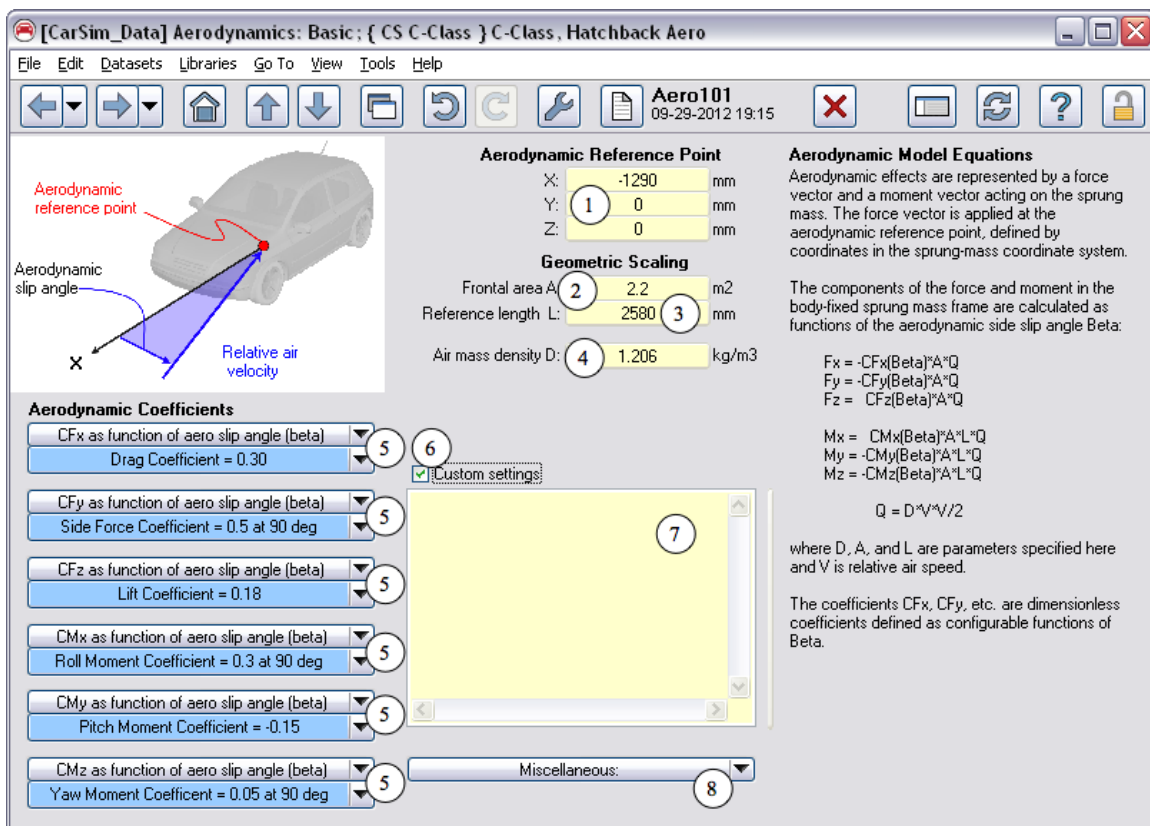
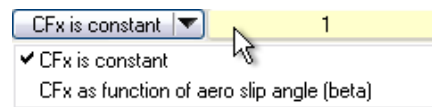

Figure 1. The Aerodynamics: Basic Screen.
Figure 2. Drop-down control to specify coefficient as constant or Configurable Function.
Use the screen shown in Figure 1 to assemble the aerodynamic effects acting on a vehicle lead unit (CarSim, TruckSim, BikeSim) and trailers (CarSim and TruckSim).
- ② Frontal area of vehicle unit used to calculate aerodynamic forces and moments (keyword = $AREA_AERO[(IUNIT)]$).
- ③ Aerodynamic reference length (keyword = $L_REF_AERO[(IUNIT)]$). This length is used to scale the three aerodynamic moments applied to the sprung mass. It is usually the wheelbase length.
- ④ Air mass density ρ (see equation 2, keyword = D_AIR). As noted earlier, air density can also be specified on the **Wind Speed** screen. If a run is made with a wind dataset that specifies ρ , that value will override the value specified on this screen.
- ⑤ Definitions of the coefficient C_1 in equations 1 and 3. Each of these coefficients has an associated drop-down control that can be used to specify its value as either a constant, or with a link to another dataset in which the coefficient is defined using a Configurable Function based on aerodynamic slip angle (Figure 2).
When the coefficient is set to a constant, a yellow field is shown for the value (Figure 2). If the Configurable Function option is chosen, a blue link is used to connect to another dataset (Figure 1) with access to the libraries shown in Table 1.
The controls from the **Aerodynamics: Basic** screen (Figure 1) are also on this screen and were described in the previous section. This screen has additional controls for the coefficient C_2 used for each force and moment ⑨.
- ⑨ Definitions of the coefficient C_2 in equations 1 and 3. Each of these coefficients has an associated drop-down control that can be used to specify that the coefficient is not used (it is set to unity), or that it is defined with a Configurable Function based on vehicle pitch angle and ride height.